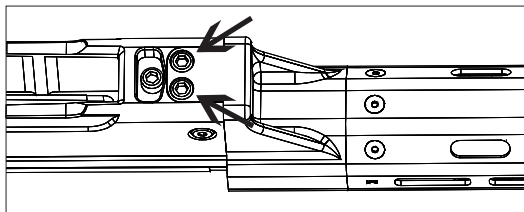

Figure 38 - Hand Guard Screws
3. The hand guard attachment screws can be identified as **the pair of 3/16"** screws positioned side by side in front of the magazine well. (Fig 38)